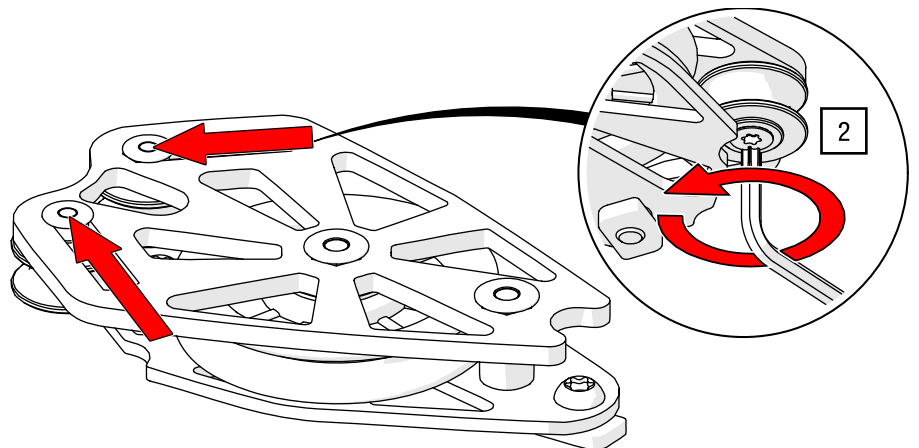

Fig. 87: Top cord operation – Adjusting the return pulley
2. Loosen the cord guides on the return pulley, slide them to the outer position, and tighten the screws again using a TORX®-key T30 and 11 Nm (see Fig. 87).